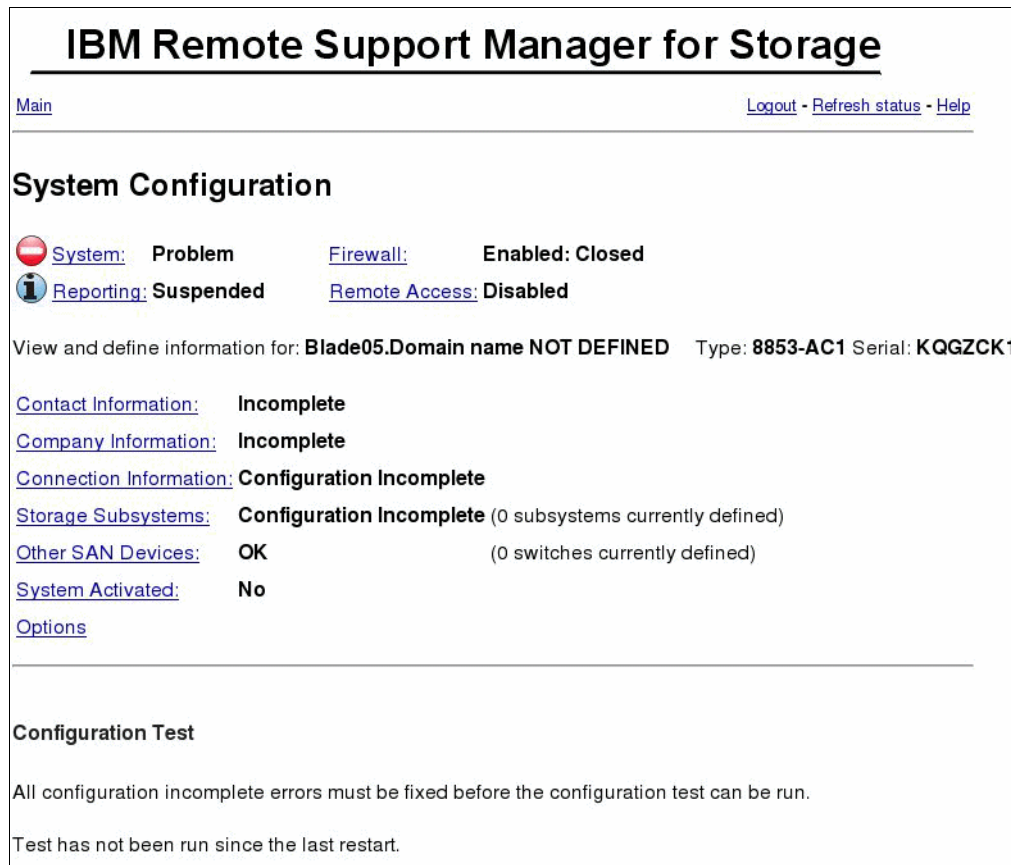

Figure 15-6 System configuration incomplete
4. The System Configuration window shows the incomplete tasks that need to be completed before the RSM system can be used (Figure 15-6).
- The task Contact Information in System Configuration will be marked OK. Click **Company Information**, as shown in Figure 15-6 on page 364.